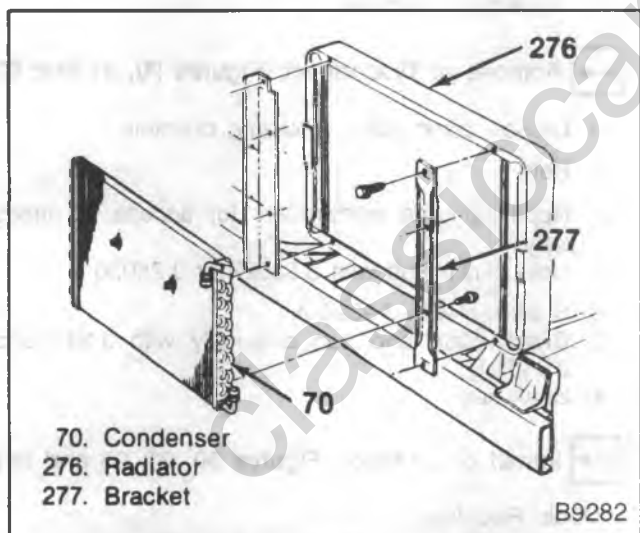

Figure 74—P-Truck 5.7L Engine Condenser Installation
1. Condenser Mounting — refer to figures 74 and 75.